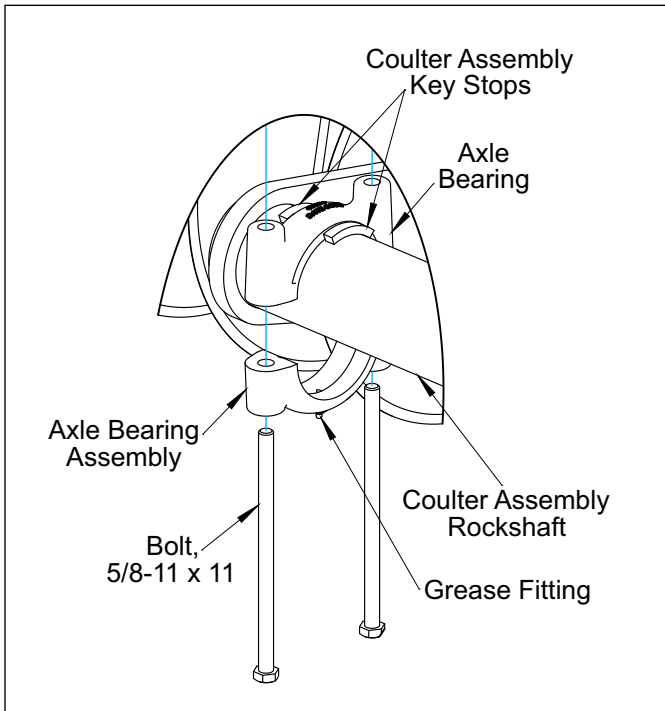

Figure 2-13: Manual Coulter Bearing Installation
2. Mount Coulter Gang Assembly to the Frame by placing an Axle Bearing half without the grease fitting on top of the Coulter Gang Assembly Rockshaft ends, one Axle Bearing must be between the Key Stops. **See Figures 2-13 and 2-15.**